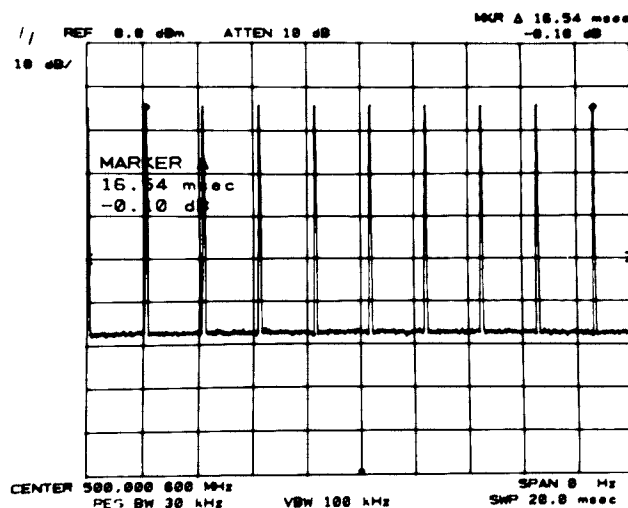

Figure 4-27. Sweep Time Measurement
9. Set analyzer to 20 msec. Adjust TRIGGER LEVEL so that analyzer is sweeping and trace is stationary (see Figure 4-27).
12. Press MARKER and position the movable marker on the ninth time mark pulse from the left edge of the graticule. Read the time span from the MARKER Δ readout (see Figure 4-27). This time should be between 14.40 msec and 17.60 msec.